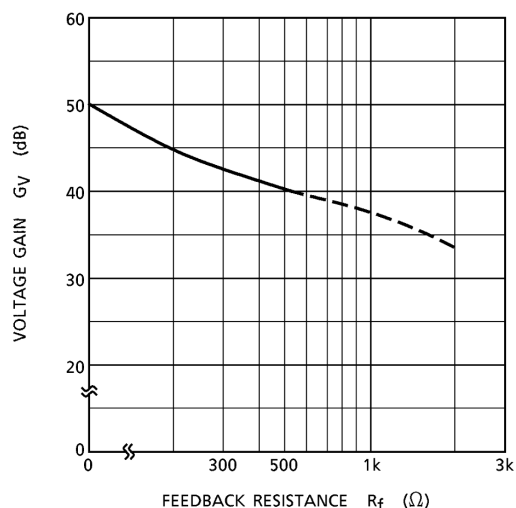

Fig.2
The voltage gain is reduced when R_f is increased. (Fig.2) With the voltage gain reduced, since (1) the oscillation stability is reduced, and (2) the pop noise changes when VCC is set to on, refer to the items 3 and 4.